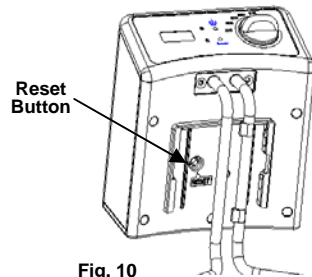

Fig. 10
3. After the appliance has cooled completely, lift the control panel and using the tip of a ball point pen or pencil, push the thermostat reset button that is located on the inside of the control panel (Fig. 10)